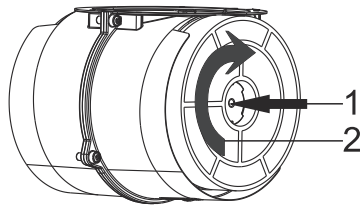

Fig. 7: CARBON FILTER
- 1-Place the carbon filter in its housing.Fig. 7
- 2-Rotate the carbon filter clockwise and make sure that it is seated completely.Fig. 7